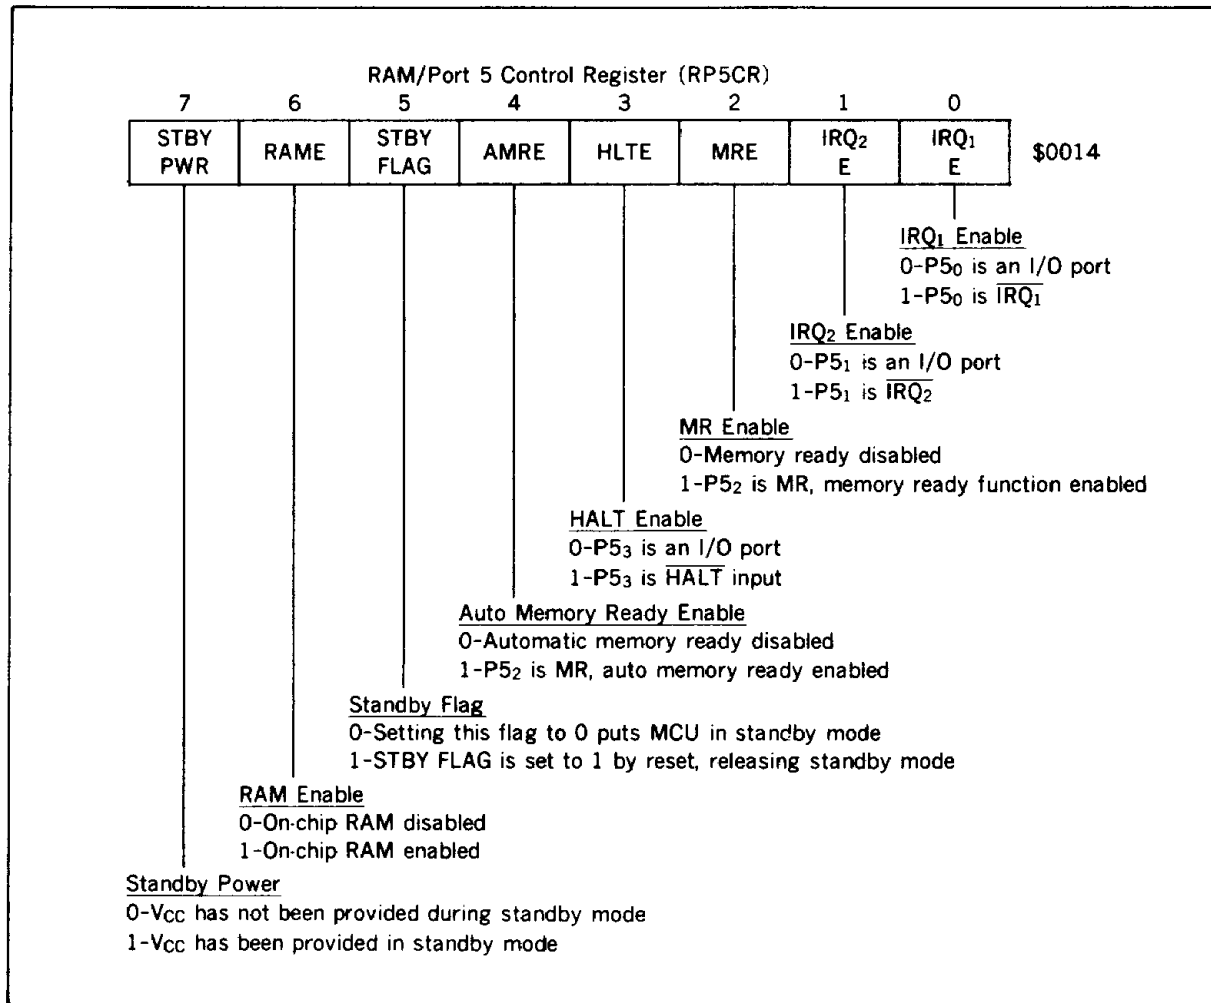

Figure 19. RAM/Port 5 Control Register
**RAM/Port 5 Control Register** : The RAM/port 5 control register (RP5CR: \$0014) controls onchip RAM and port 5 (figure 19).